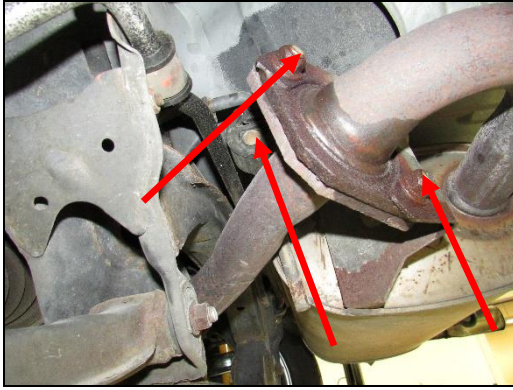

Figure 1
3. Remove the (x2) 17mm head nuts and (x3) hangers out of the rubber isolators (**Figures 1 & 2**).